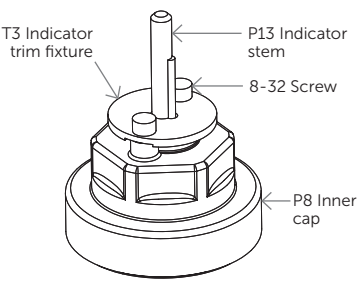

Figure 5.
2. For all other valves, refer to Figure 5. Attach the indicator stem trim fixture (T3) to the inner cap (P8) using the two 8-32 screws provided. The trim fixture must be firmly attached, but take special care not to overtighten the screws and strip the plastic threads.